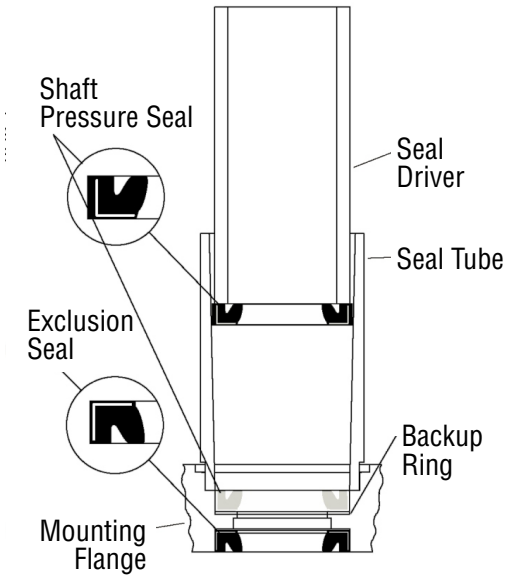

Figure 5-29, Seal Installation
10. Install the exclusion seal into the mounting flange. Carefully press the exclusion seal into place. (Figure 5-29)
12. Lubricate the ID of the seal tube and OD of the shaft pressure seal with a light film of clean petroleum jelly. Align the small ID end of the seal tube with the seal seat in the mounting flange. Install the back-up ring and pressure seal in the tube with lips of the seal face up (Figure 5-29). Insert the seal driver in the tube and firmly push seal seat with a rotating action.